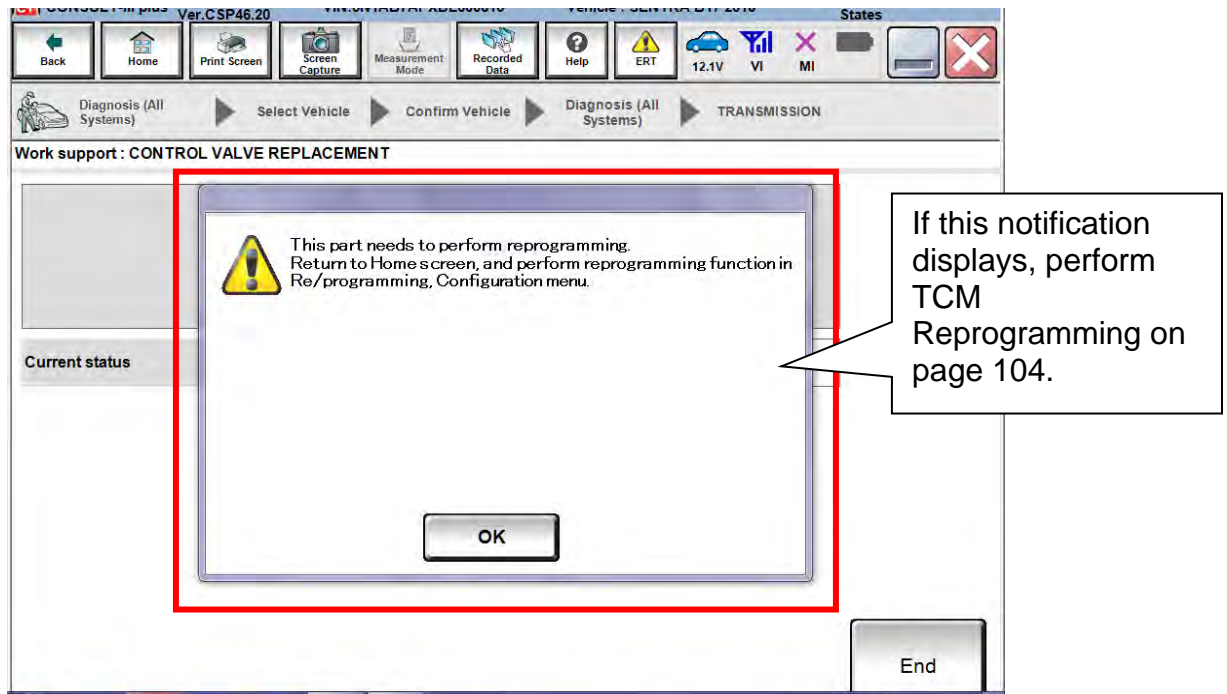

Figure 41
71. Does the pop-up notification in Figure 41 display?